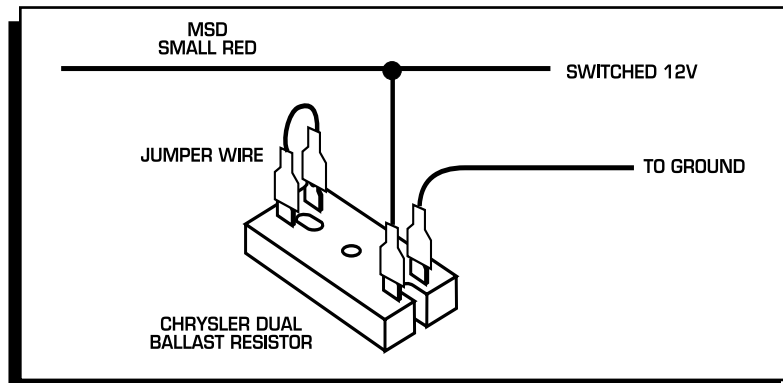

Figure 5 Wiring the Dual Ballast Resistor for Run-On.
**Most other applications:** On other applications where engine Run-On is experienced, a Resistor can be put in-line to the MSD's small Red wire (Figure 5). This resistor will keep voltage from leaking through to the MSD unit.